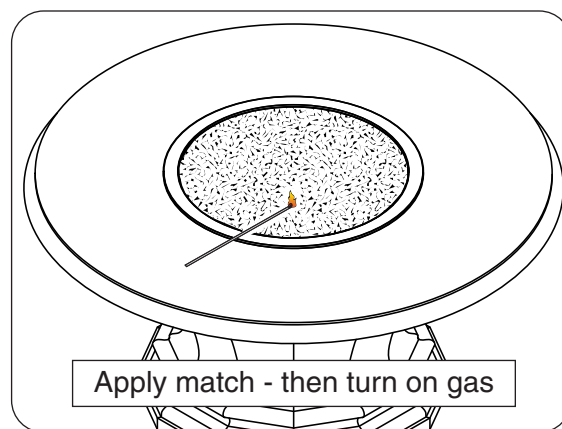

Fig. 51-1
- 3. Lay a lighted match on the surface of the decorative media near the burner (**do not hold the match in your hand**) (Fig. 51-1).